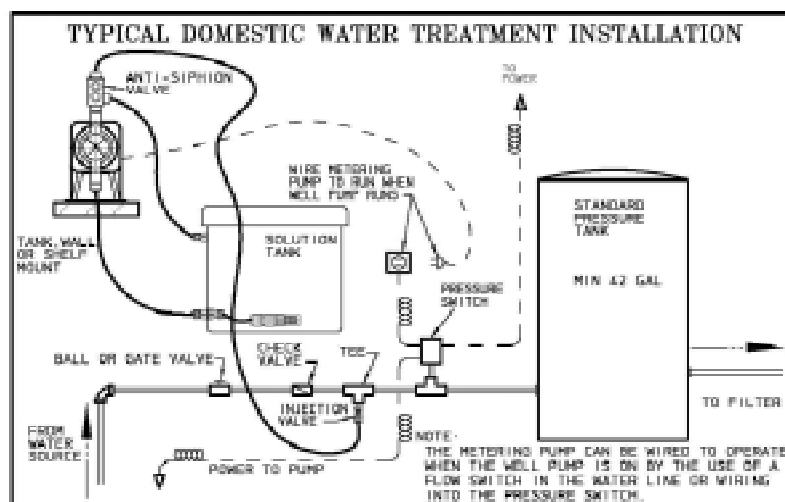

FIGURE G1
19. The pump is designed to operate using a backpressure/injection valve. If the discharge pressure is above the liquid level of the source or if the discharge pressure is less than the suction pressure, a backflow may occur. To correct this condition, install an anti-siphon valve or other anti-siphon device in accordance with local regulations which may apply. (Ref. Figure G1).
- USE AN ANTI-SIPHON VALVE IN THE DISCHARGE LINE whenever the fluid pressure in the discharge is below atmospheric pressure. This can occur if the injection point is on the suction or against a "negative" head such as when feeding down into a well, SEE FIGURE G1.
2. Install the backpressure/injection (Figure I) on the discharge side of the metering pump into a tee which is installed into the water line going to the pressure tank. Typical installations are found in figures G1, G2 and G3.